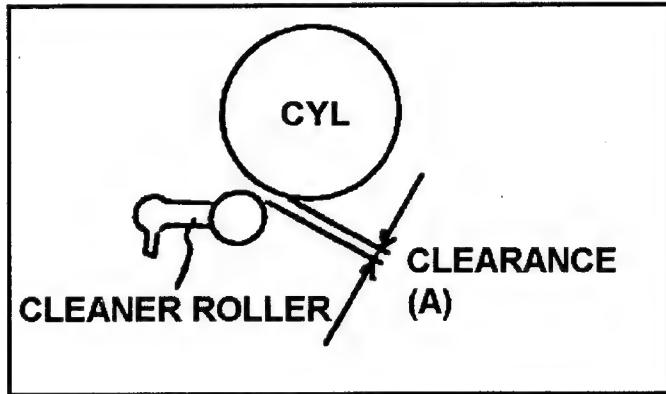

Fig. 4-15-4 Cleaner Roller Position Adjustment
1. Observe the clearance (A) between Cleaner Roller and cylinder Unit as shown in Figure 4-15-4. And make sure that it is within 1.0 to 1.2mm.
2. If not, loosen the 2 screws (B)1 and adjust the position of Cleaner Base Plate by moving arrow direction ( $A \leftrightarrow A$ ) using the Eccentric driver so that the clearance (A) is within specification. And tighten the 2 screws (B).